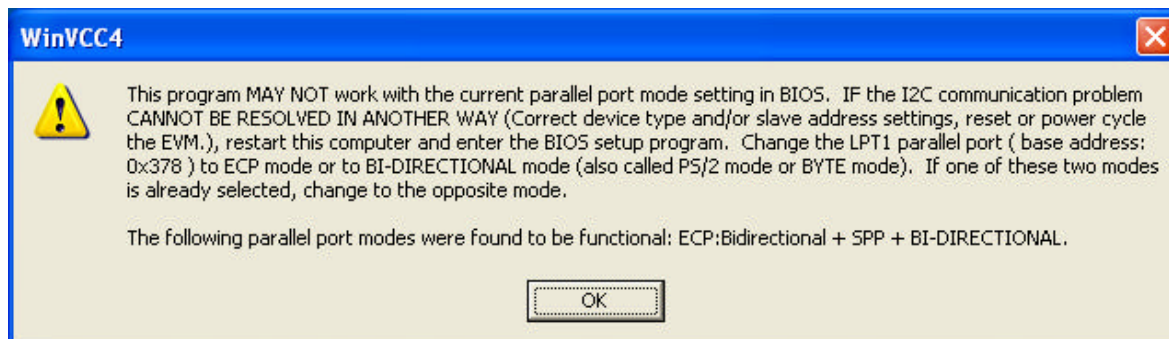

Figure 24. Corrective Action Required
- b. The dialog box shown in Figure 24 appears. This dialog box appears if the PC parallel port mode setting may need to be changed.